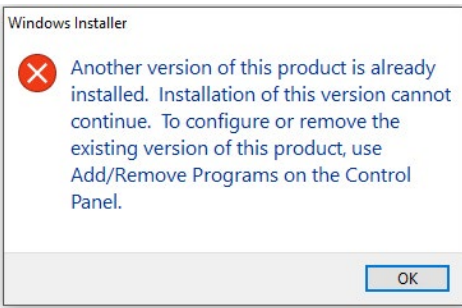

Figure 3: Windows Installer Error Message
2. Run the **Consol-Setup** file and follow the prompts on the screen. The software should detect any previous versions and uninstall them automatically. If a Windows Installer message appears (Figure 3), follow the prompts and uninstall the previous version of the software. Once installation is complete, close the installer.